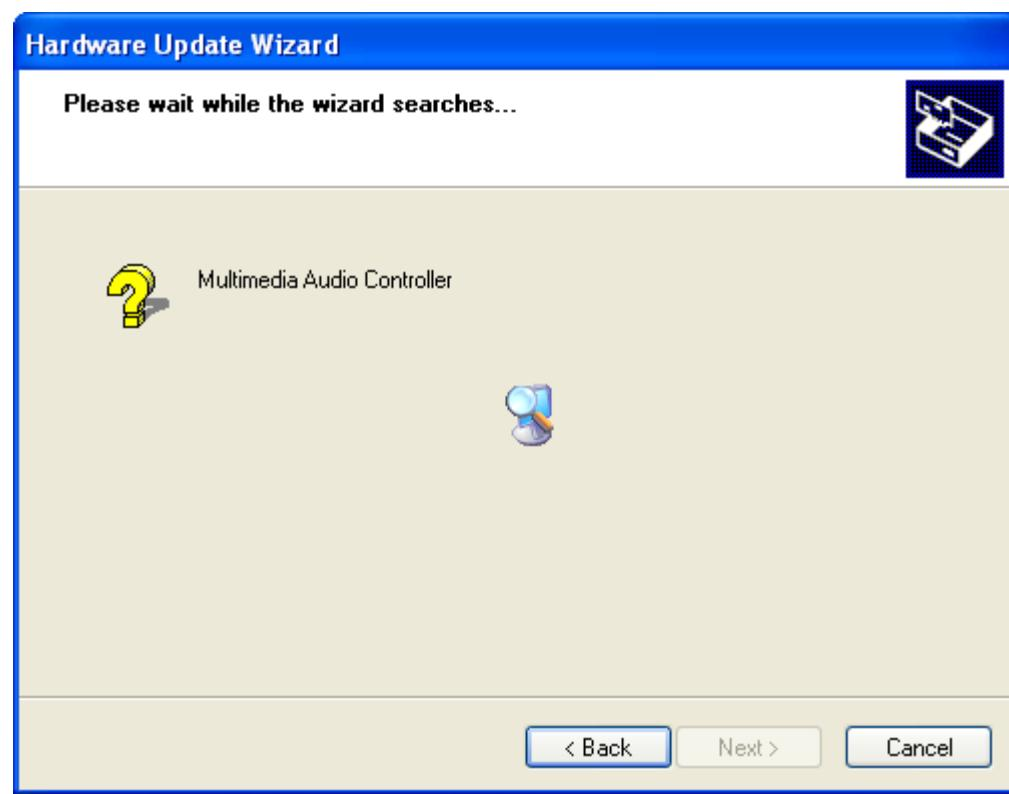

Figure 7-20: Wizard Search
Step 37: The Wizard then searches for the driver. See **Figure 7-20**.